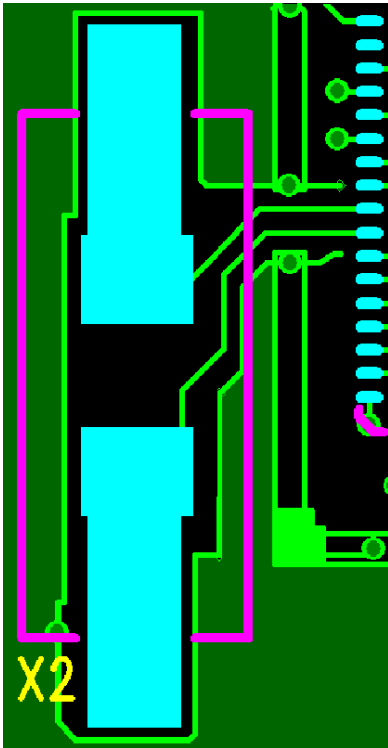

Figure 9. PCB Top Metal Layer Shielding of Crystal Signals
**OSC\_32K\_XOUT:** Output Pin for the 32kHz Oscillator. Connect to 32kHz quartz crystal. The OSC\_32K\_XOUT and OSC\_32K\_XIN traces must be well-shielded from other signals, both on the same PCB layer and lower PCB layers, as shown in Figure 9.
**OSC\_32K\_XIN:** Input for the 32kHz Oscillator. Connect to 32kHz quartz crystal. The OSC\_32K\_XOUT and OSC\_32K\_XIN traces must be well-shielded from other signals, both on the same PCB layer and lower PCB layers, as shown in Figure 9.
**OSC\_20M\_XOUT:** Output for the 20MHz Oscillator. Connect only to a supported 20MHz quartz crystal. The OSC\_20M\_XOUT and OSC\_20M\_XIN traces must be well-shielded from other signals, as shown in Figure 9. See the Eterna Integration Guide for supported crystals.
**OSC\_20M\_XIN:** Input for the 20MHz Oscillator. Connect only to a supported 20MHz quartz crystal. The OSC\_20M\_XOUT and OSC\_20M\_XIN traces must be well-shielded from other signals, both on the same PCB layer and lower PCB layers, as shown in Figure 9.